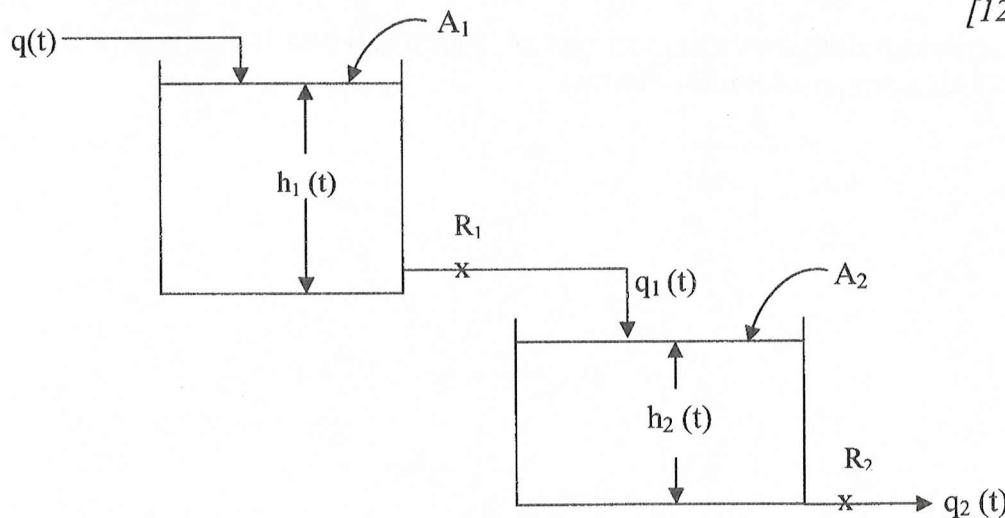

Figure Q.1
- [c] Derive the transfer function relating the level of the liquid in tank 2, h_2 , and the inlet flowrate, q , to tank 1, when the two tanks are connected in the non-interacting way, as shown in Figure Q.1.